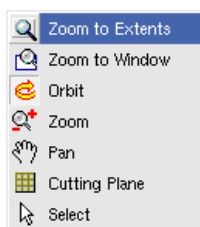

Figure 5 Toolbar buttons for zooming, panning, and orbiting with mouse operations
- **View > Interactive Mode**, or click the corresponding toolbar button (see Figure 5).